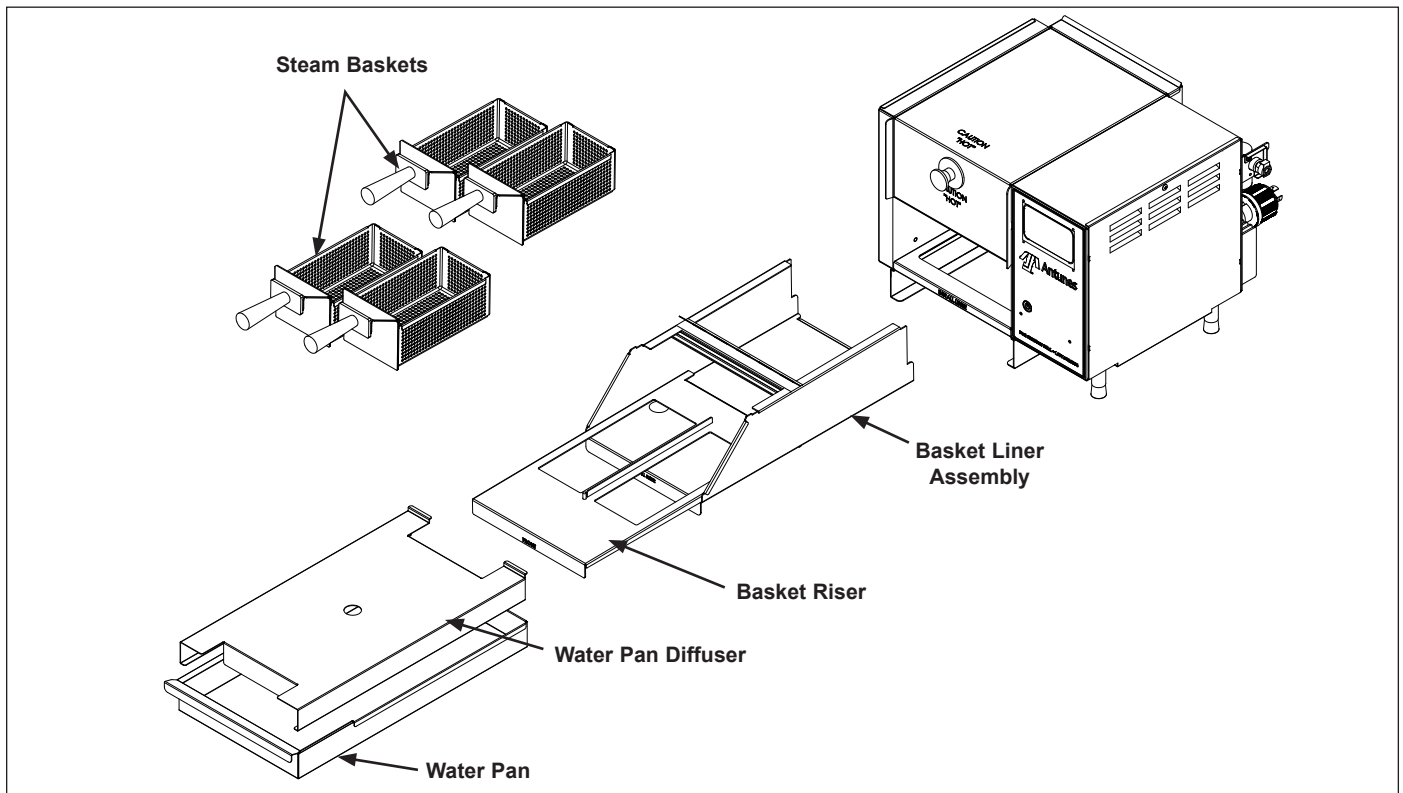

Figure 6. Components
2. Put on heat resistant gloves and remove the items in Figure 6.